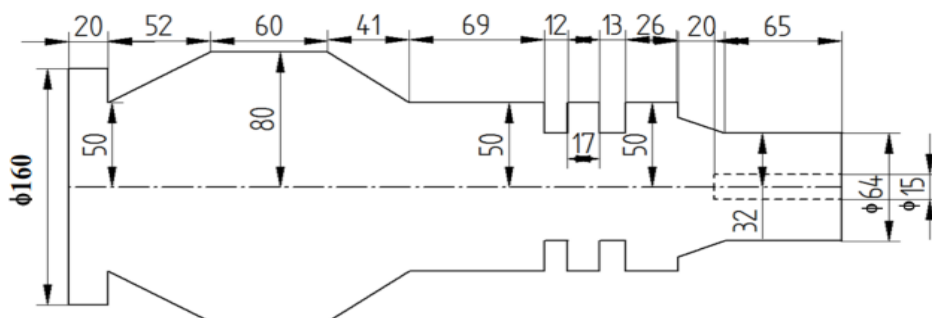

Fig. 3A
- 3A. Write a part program to obtain the component as shown in the Fig 3A. By using standard turning cycles only. **03**